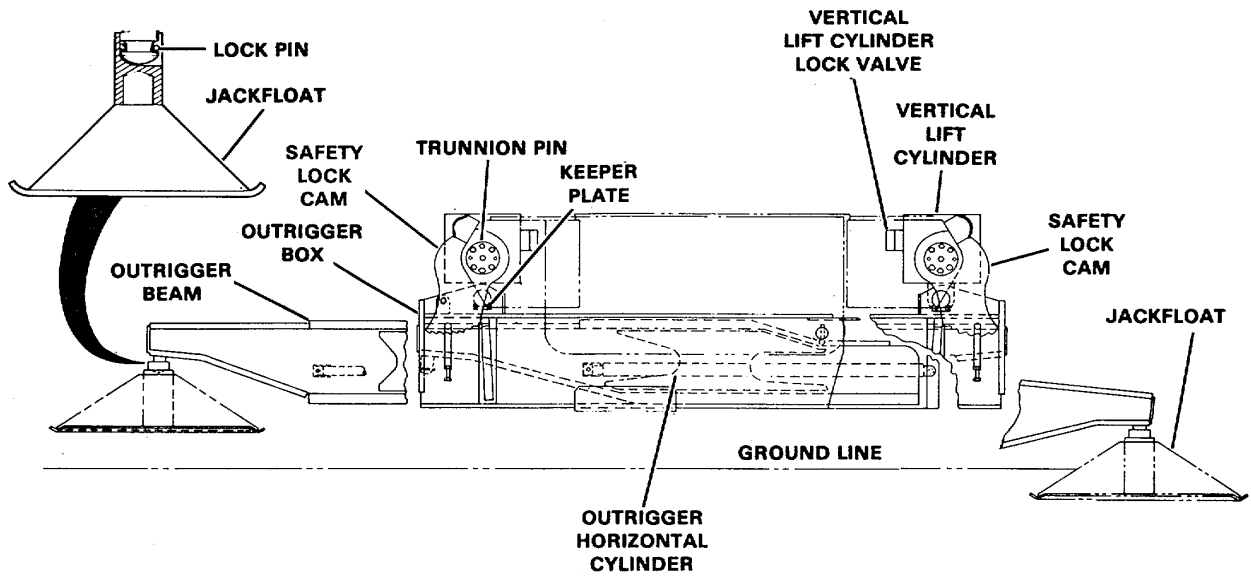

Figure 2-4. Hydraulic Outrigger Assembly (8100J3952-8)
8. After the outriggers are properly positioned, with the machine level, and with the wheels lifted off the ground, release the safety cams on the outrigger housings to mechanically lock the outriggers in the extended position (see Figure 2-4):